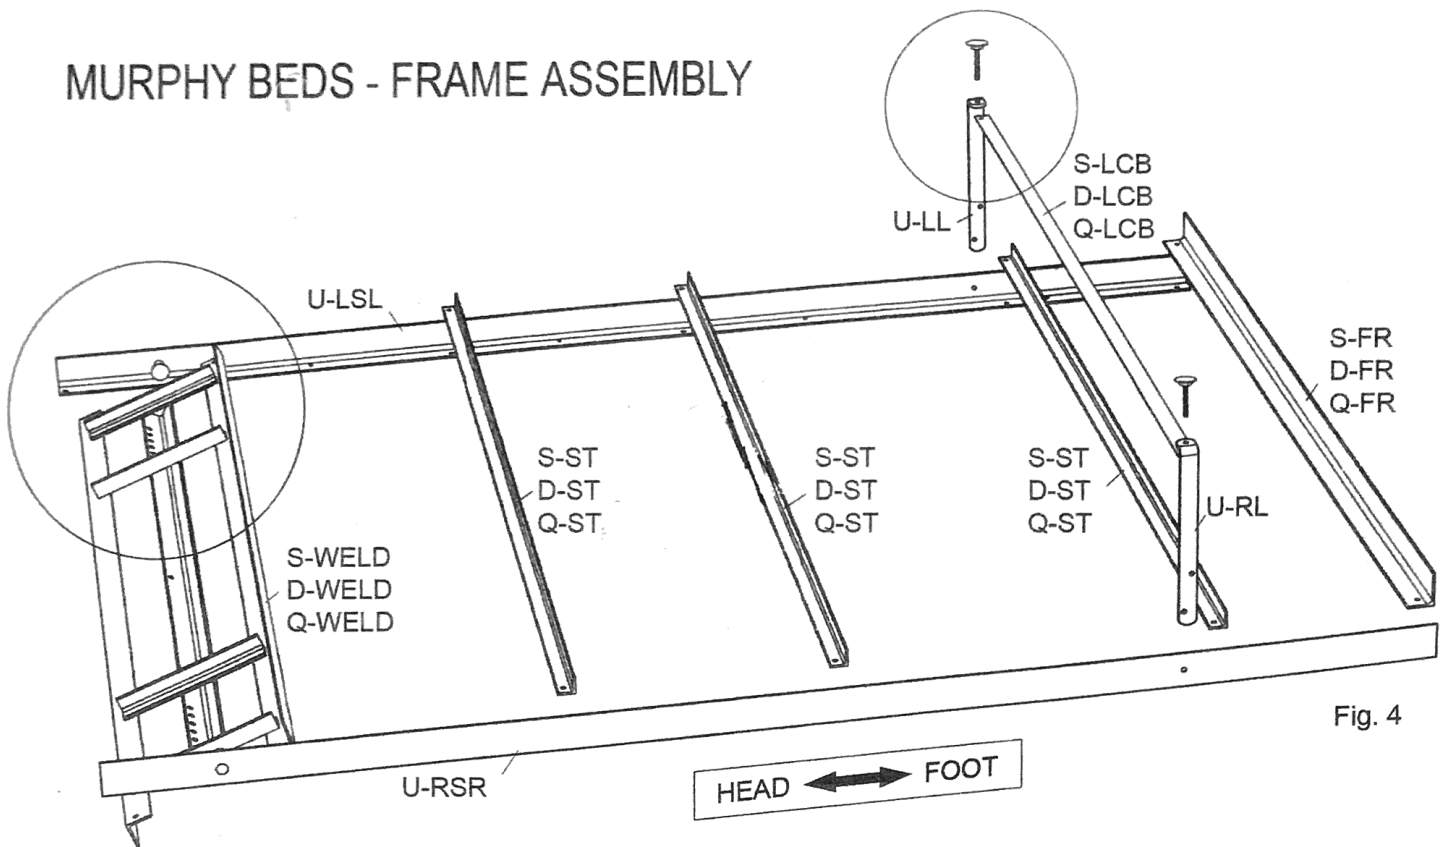

Fig. 4
9. Lay parts on floor upside-down, as shown in Fig. 4 (with short side of Side Rails on the floor). It will be helpful to raise the foot end of the side rails off the floor a couple of inches with 2x4 wood blocking, etc. Loop the straps around the side rails (U-LSR / RSR) between the foot rail (-FR) and first stiffener (-ST).
13. Attach left and right legs to side rails of frame using the 1-1/4" bolts (UMB125), through the outside of the side rails, through the nylon spacers (UMSPNY), then through the leg, secured with nylon insert locknuts (UMNNYL), and tighten snug. Note: The holes used to connect to the legs to the side rails are offset toward the head of the bed. See Fig. 4.